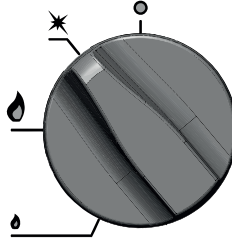

Figure 9. Setting the knob when only the pilot burner is gas-powered
- Turn the knob to the „pilot burner” position as shown in Fig. 9 (counterclockwise)
- If you temporarily do not use the burner, turn the pilot knob to the „pilot burner” position (Fig. 9).